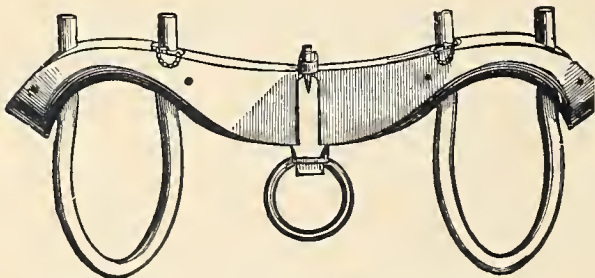

Fig. 481.—Ox-Yoke, Complete.
*The Ox-Yoke, Complete*, represented by *Fig. 481*, is made of various sizes and as noted below. We also manufacture yokes suitable for single cattle.